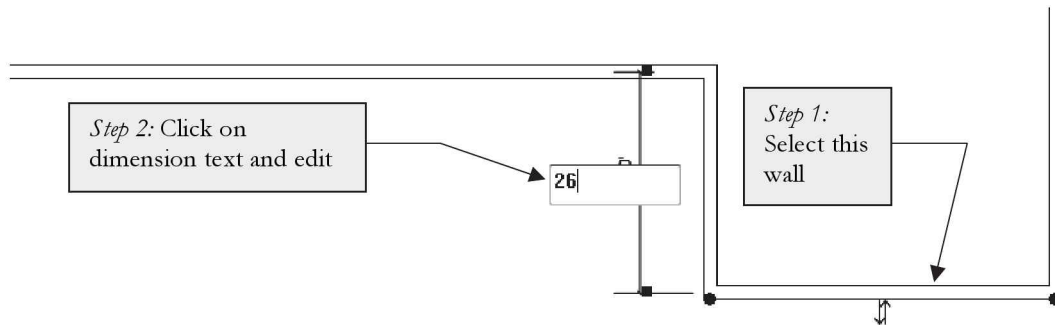

FIGURE 5-2.4 Editing exterior walls; lower right corner of floor plan
6. In the lower right corner of the floor plan, select the wall shown in Figure 5-2.4.